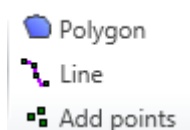

Figure 6.12: Overview of the available geometry operations in the 'Map' ribbon
The spatial editor supports three types of geometry operations: (1) polygons, (2) lines and (3) points (see also Figure 6.12). The following sub-sections subsequently describe how these geometries can be selected and edited. If you do not select any of these three geometry operations, the spatial operation automatically applies to all the data.